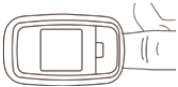

Figure 7. Finger Position
1. The finger should be placed properly (refer to Figure 7), or else it may cause inaccurate measurement.
2. Place the finger between the rubber cushions of the clip as shown in Figure 7 (make sure the finger is in the right position), and then clip the finger.